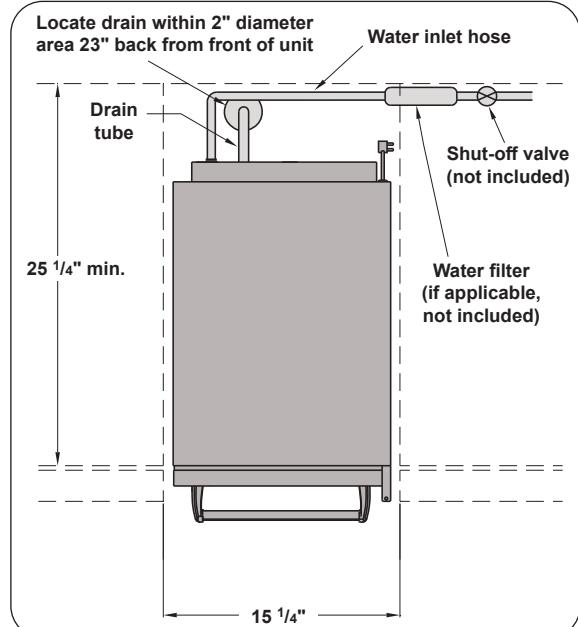

Fig. 10-1 Top view
5. Connect the drain tube (with a diameter of  $5/8"$ ) to the drain pipe at the rear of the product and secure them together using a hose clamp. See Fig. 10-1 for orientation.